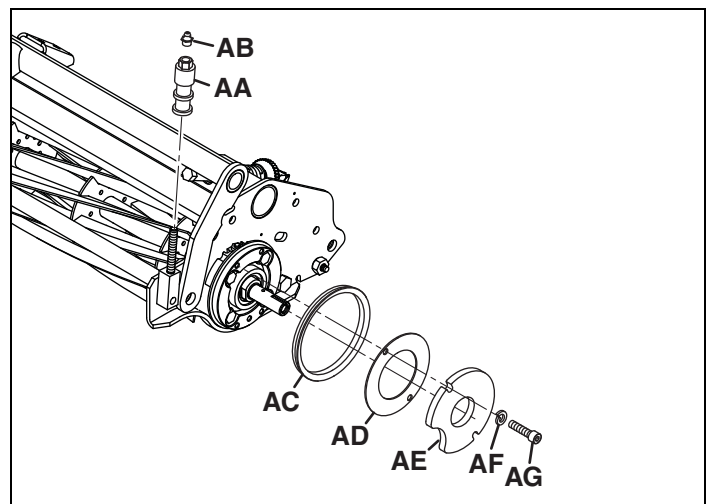

Figure 4
6. Assemble grease fitting **(AB)** to adjuster knob **(AA)**. Assemble adjuster knob **(AA)** to reel adjuster stud. Repeat for opposite end of reel. See **Figure 4**.
7. Assemble seal **(AC)** to bearing housing. See **Figure 4**.
8. **All Mowers:** Assemble cover plate **(AD)** and weight **(AE)** to bearing housing using two 1/4-20 x 1-1/4" socket head screws **(AG)**, and lockwashers **(AF)**. See **Figure 4**.
**NOTE:** The round cutout in weight **(AE)** must face towards the front of the reel when assembled as shown in **Figure 4**.